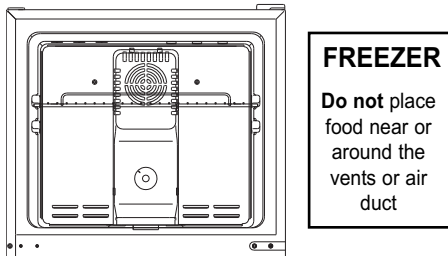

Fig.3.
10) Remove the left door stop and screw for the freezer door from the accessory bag and attach it to the handle (see **Figure 3** on following page) **Note:** The left door stop of the freezer door are different.
- Do not place food so that it blocks an air vent, and leave adequate space between food items for air flow in the cabinet (see **Fig.3.**)